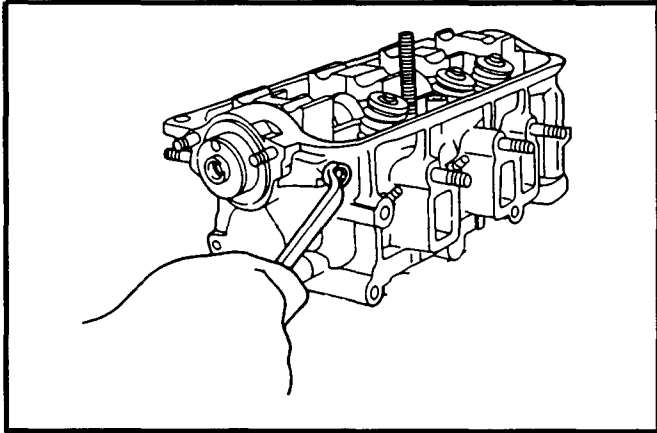

Figure 28.
2. Remove the flange bolt for the camshaft thrust ring. See Figure 28.